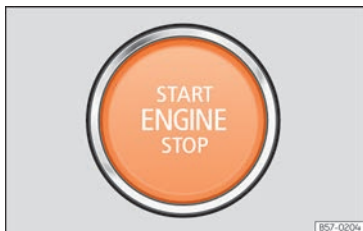

Fig. 136 In the lower part of the centre console: start button.
- Press the starter button »» **Fig. 136**; do not press the accelerator. There needs to be a valid key inside the vehicle for the engine to start. After starting the engine, the lighting of the **START ENGINE STOP** button changes to steady lighting, indicating that the engine has started.
- *Vehicles with start buttons:* Briefly press the start-up button »» **Fig. 136**.